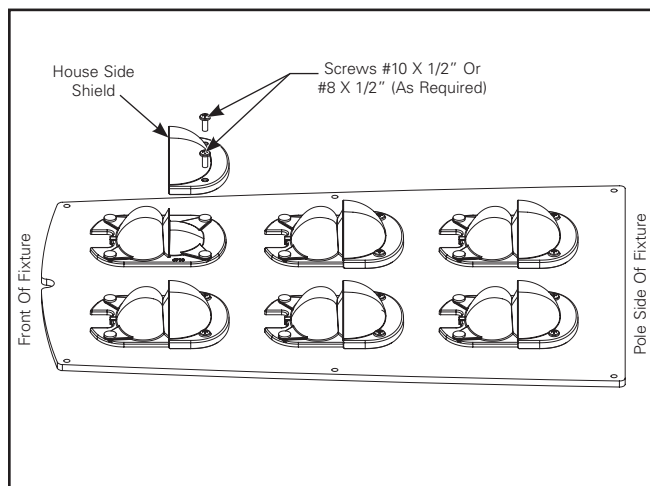

Figure 10.
**Note:** House side shield must ONLY be installed on the back side of the optics as shown in (Figure 10). DO NOT install on the other side of the optic.